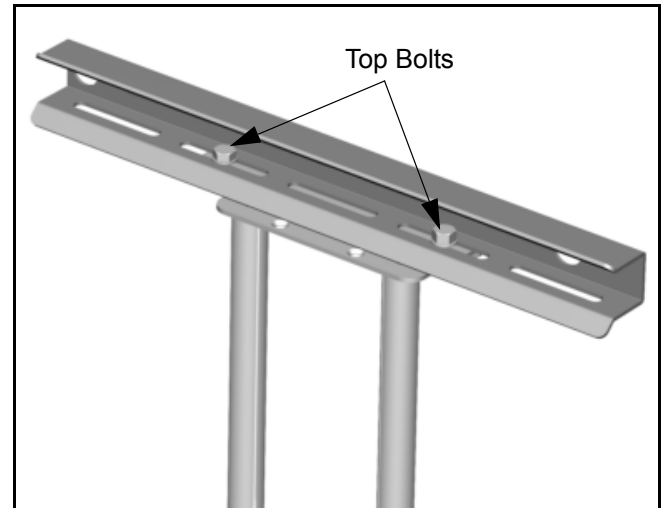

Figure 11: Adjust Swing Arm-Slightly Off Center
2. Loosen four bolts (two on the top and two on the bottom) securing the swing arm assembly to the top and bottom mounting brackets (See figure 11).